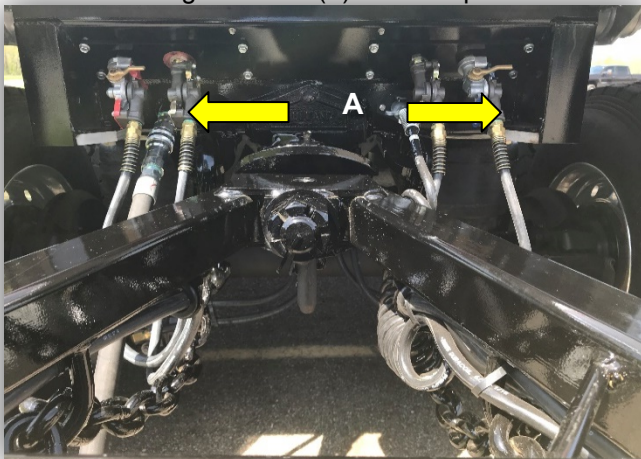

Figure 6-1 Air Supply Valves on Lead Trailer
3. Move the air supply valves on lead trailer glad hands (A) to the off position as shown in figure 6-1.